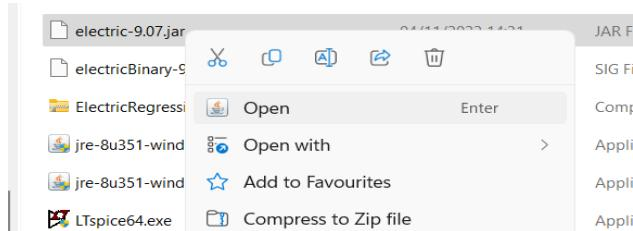

Figure 1.3: Open electric 9.07.
1. Open the VLSI Electric software and create a new project (see Figure 1.3).